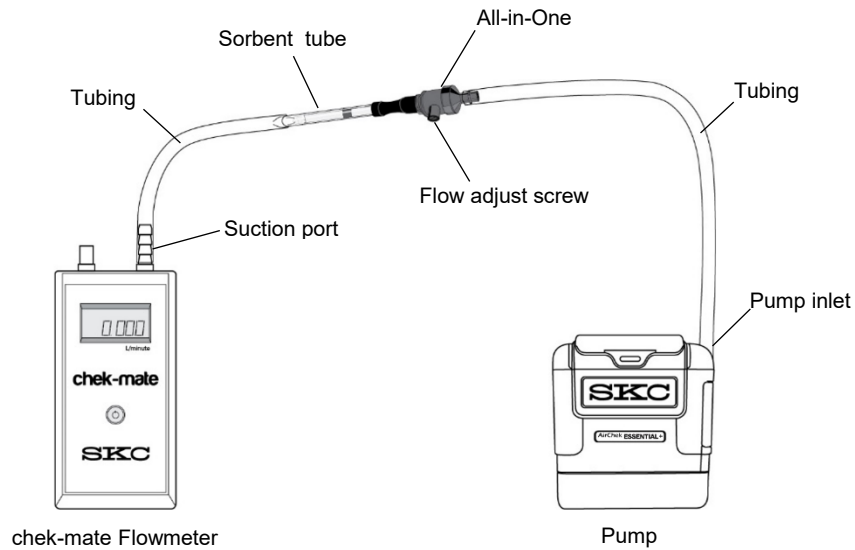

Figure 4. Flow Rate Verification Train (5 to 500 ml/min) for Single Tube
1. On the tube holder, insert an opened representative sorbent tube (arrow on tube pointing toward the pump) into the rubber sleeve on the port. See Figure 4.
Connect the flowmeter to the single sorbent tube or the first of multiple sorbent tubes as shown in Figures 4 and 5, respectively.
Verify Flow Rate with All-in-One (single tube, see Figure 4)